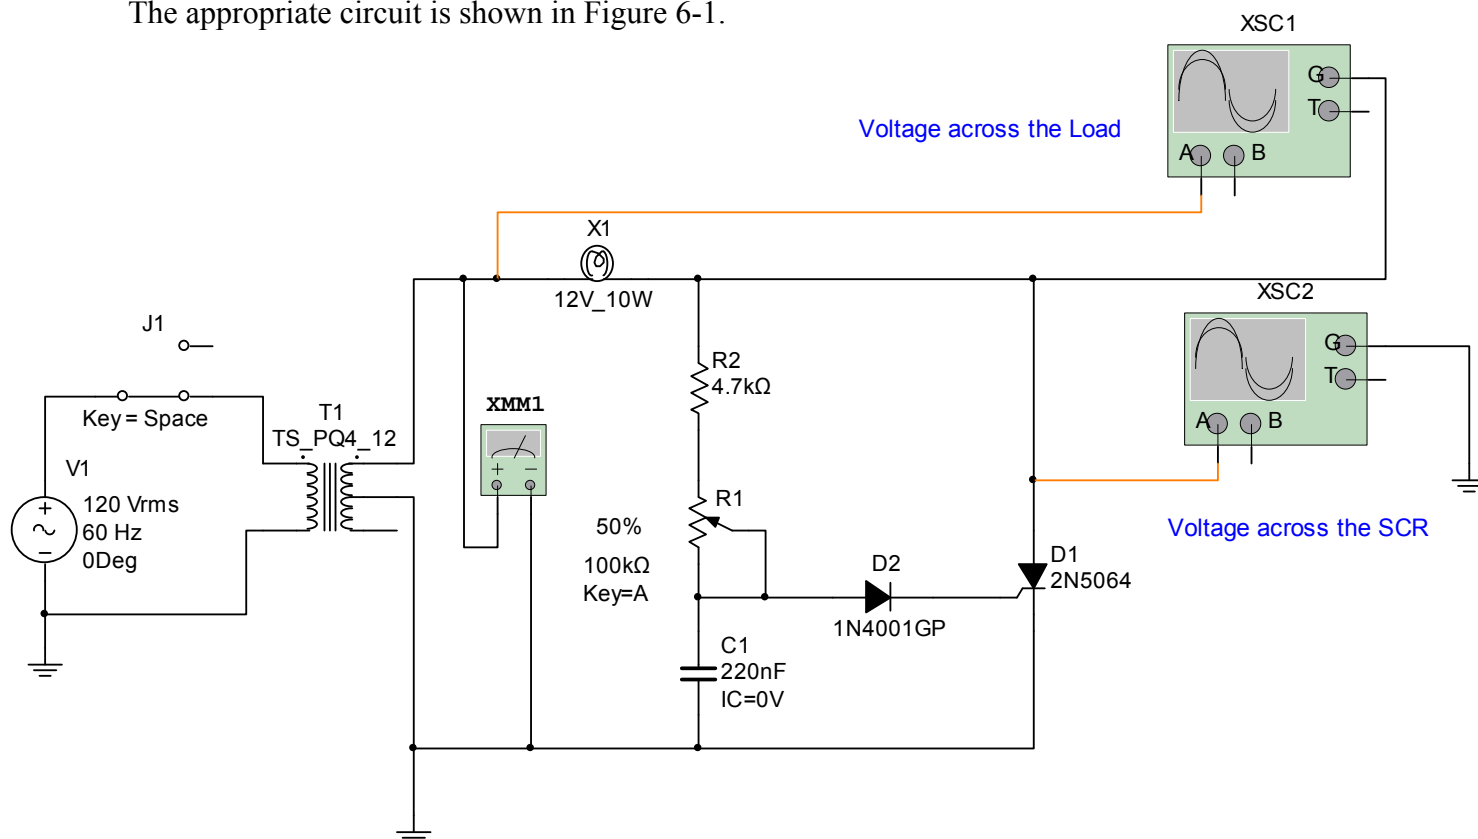

Figure 6-1. SCR circuit
The appropriate circuit is shown in Figure 6-1.
1. Build the circuit in Figure 6-1 using Multisim. Make sure that you use two oscilloscopes, one to observe the signal at the load (X1) and the other to observe the signal at the SCR (D1). In addition, ensure that X1 is a 12 V lamp.
5. Repeat steps 2 and 3. Do you observe the same behaviors and waveforms as in the circuit of Figure 6-1? Describe any difference and explain the reasons.
You are going to hardwire one of the circuits that you built and analyzed using Multisim. This time you are going to hardwire the circuit shown in Figure 6-1. As you did in previous labs, before continuing you are going to indicate the list of components and the equipment that you need to complete this task.
1. Hardwire the circuit shown in Figure 6-1. If you don't have access to an oscilloscope, then disregard it in this part. You will observe the circuit behavior by looking at the lamp brightness. If you do not have an oscilloscope, then skip step 2 and go to step 3.
2. When taking the measurements in the hardwired circuit, connect the oscilloscope to measure the voltage across the load only. **DO NOT** attempt to use a dual-trace oscilloscope to measure the voltage across the load and the voltage across the SCR (D1). What you can do is connect the oscilloscope as XSC1 in Figure 6-1 to observe the waveform at the load. Then, disconnect the oscilloscope and connect it the way XSC2 is connected in Figure 6-1 to observe the waveform across the SCR.
5. What difficulties have you encountered in hardwiring the SCR circuit of Figure 6-1?